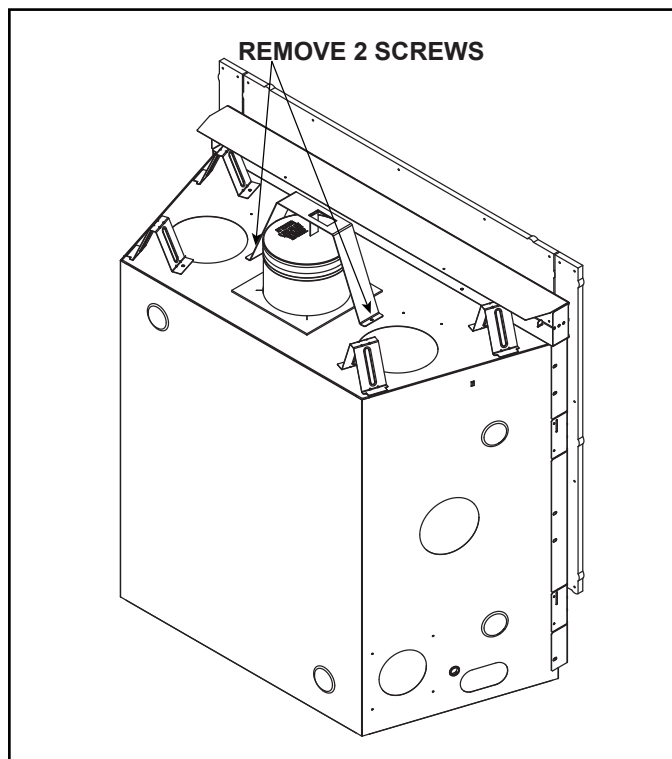

Figure 6.3 RAVE32-IFT-B - Shipping Support in Shipping Position
1. Remove two screws to remove shipping support. Discard shipping support. See Figure 6.3.